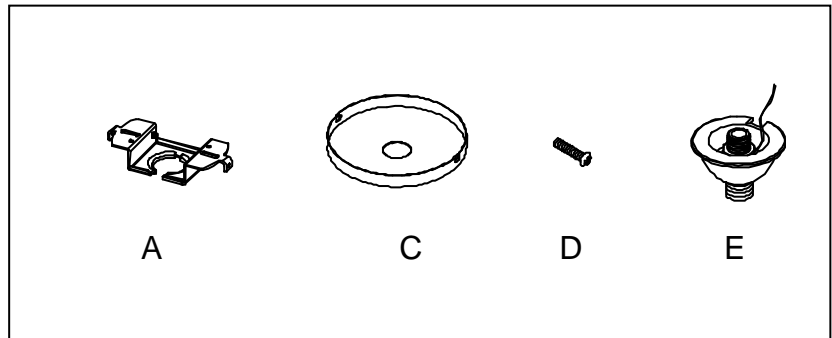

Fig.4
SUGGESTED INSTALLATION (Fig. 4)
11. Place canopy (C) over mounting plate (A) and secure with screws (D) as shown in Fig.4.
12. Align glass shade (J) to the bottom of fixture body (G) and secure with metal ring (K) by screws (L).
13. Install the 3*75W Xenon bulbs (H) (included) in accordance with the fixture's specifications. **(DO NOT EXCEED THE MAXIMUM WATTAGE RATING!). (NE PAS DEPASSER LA PUISSANCE NOMINALE MAXIMALE!)**